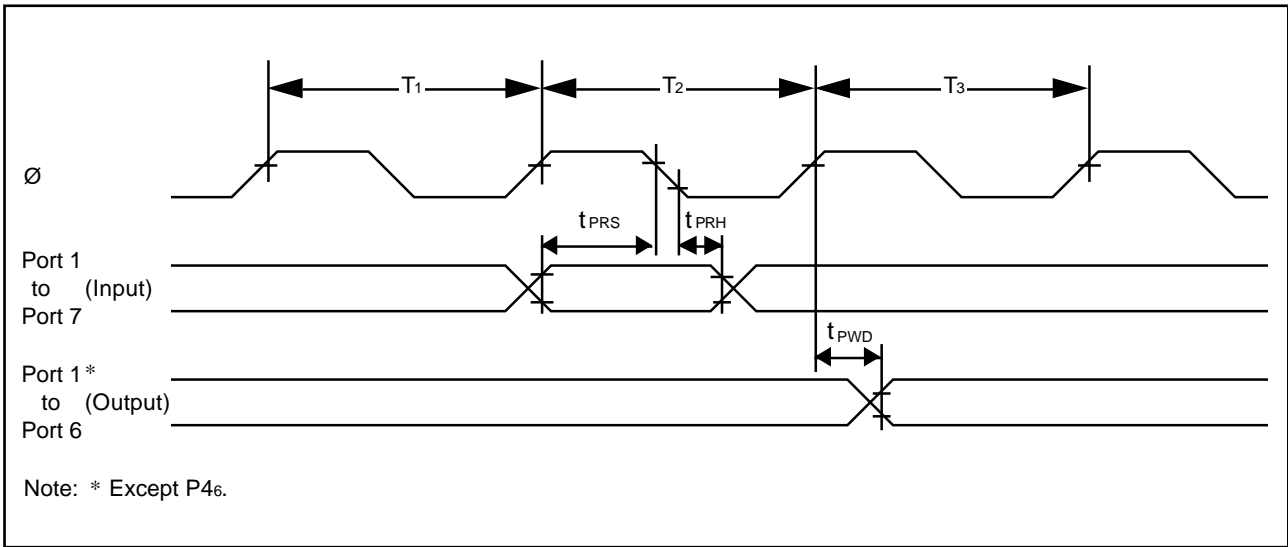

Figure 14-17. I/O Port Input/Output Timing
- 14.3.6 I/O Port Timing Figure 14-17